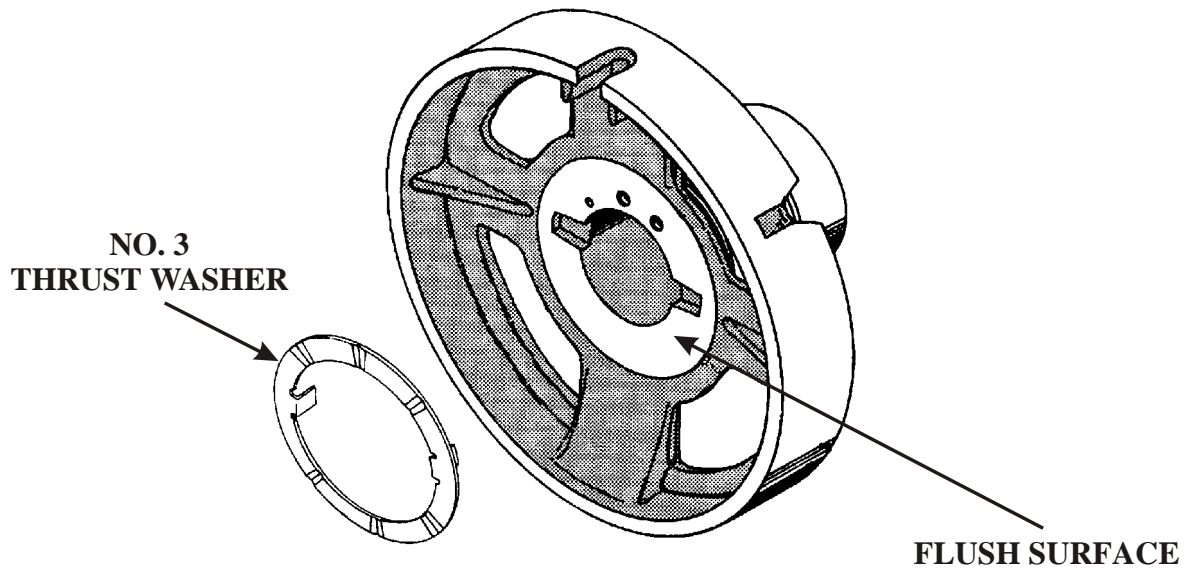
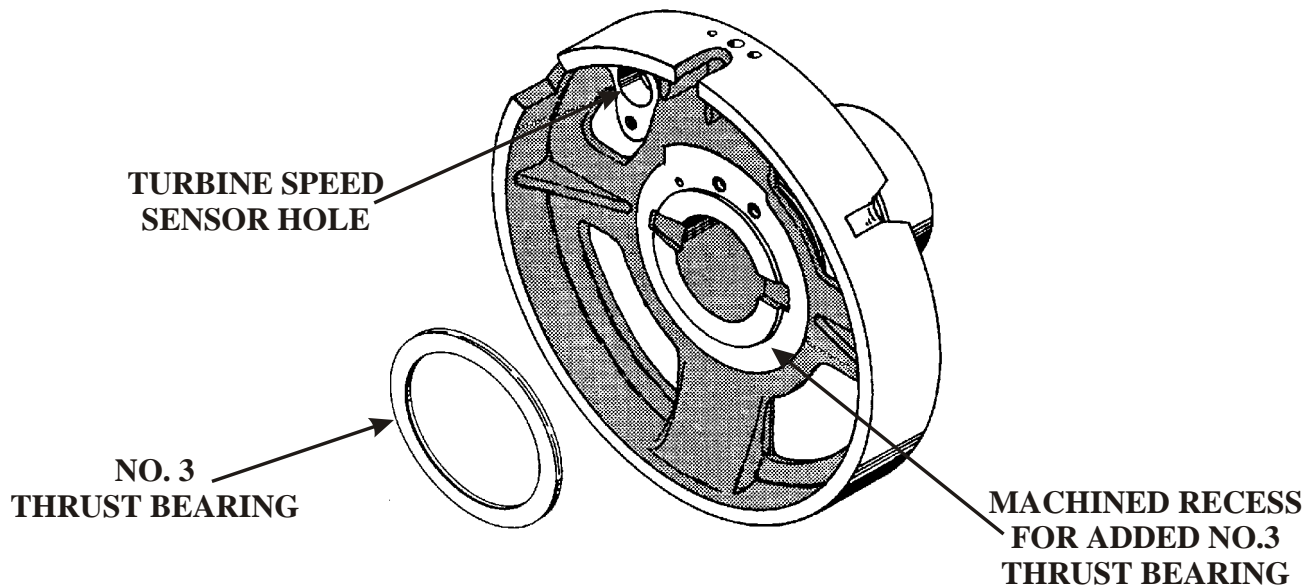
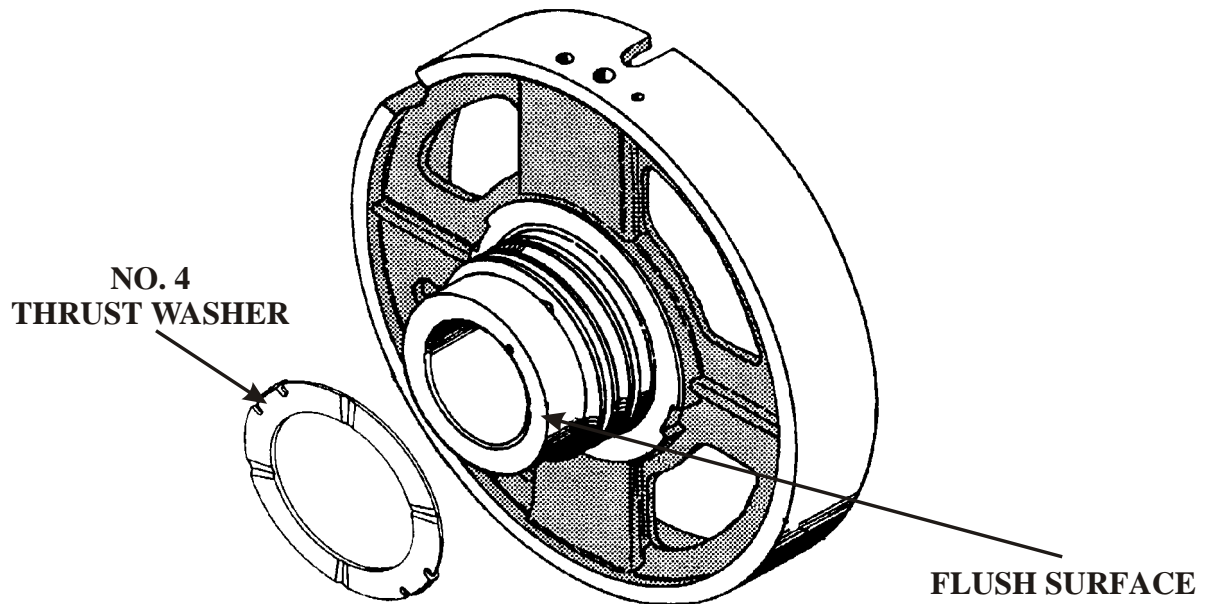
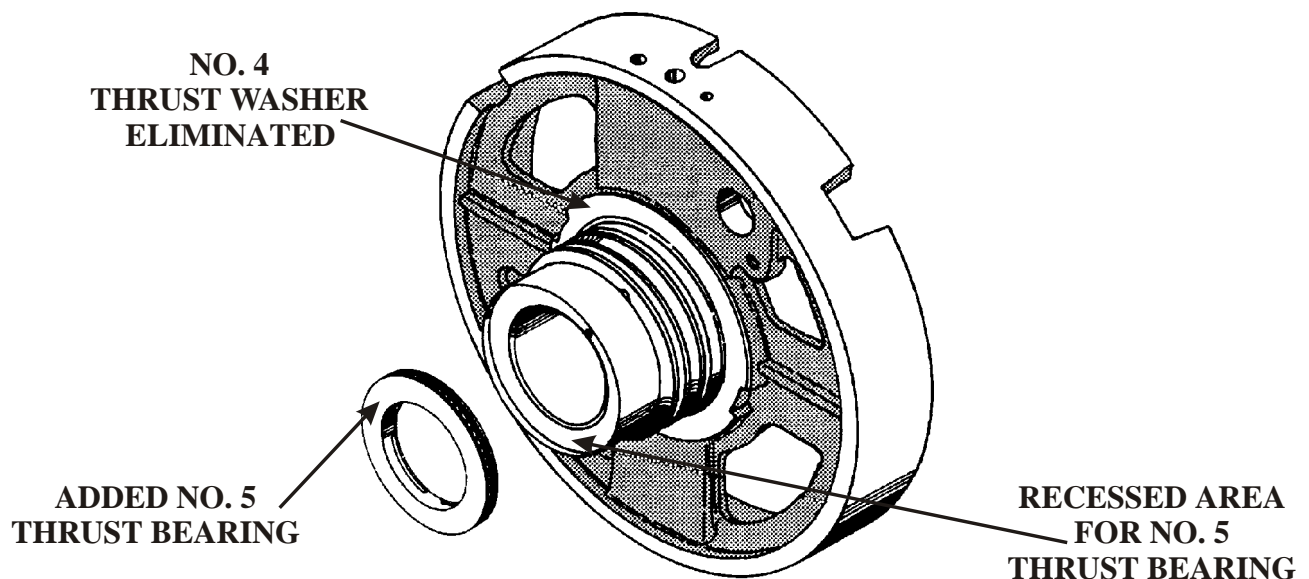

Figure 5
Figure 6
Figure 7
Figure 8
(4) **CENTER SUPPORT** - When the “Snap Shell” was introduced in 1993, the number 3 thrust washer was eliminated (See Figure 5), and number 3 thrust bearing was added (See Figure 6). The addition of the number 3 thrust bearing required machining the surface deeper to accommodate the bearings added thickness (See Figure 6). The new design center support also has a machined recess at the base of the sealing ring hub to accommodate the newly added number 5 thrust bearing (See Figure 8). Remember, the number 4 thrust washer was eliminated when this change occurred (See Figure 7).
1. Machined recess for added number 3 thrust bearing (See Figure 6).
2. Machined recess for added number 5 thrust bearing (See Figure 8).
3. Machined hole for turbine speed sensor getting ready for 4R55E (See Figures 6 and 8).
- (5) The new design level center support CANNOT be used in ANY previous models, unless updated with ALL of the parts listed above (See Figures 6 and 8).
- (6) The previous design center support CANNOT be used forward into ANY model that is using the “Snap Shell” (See Figure 5).